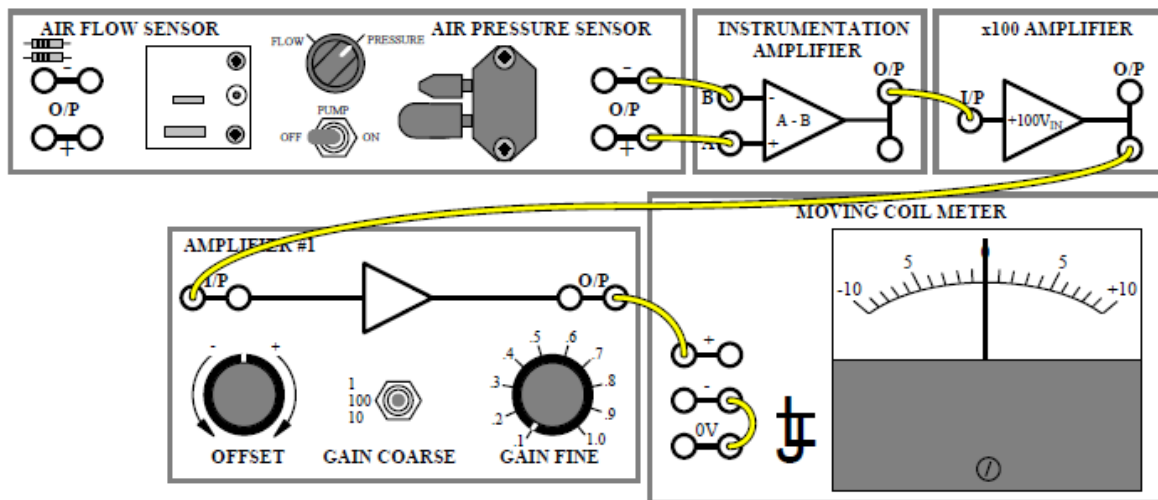

Fig 11.11
1. Connect the circuit as shown in Fig 11.11 and set the Amplifier #1 GAIN COARSE control to 10 and GAIN FINE control to 0.3. Ensure that the pump switch is set OFF.